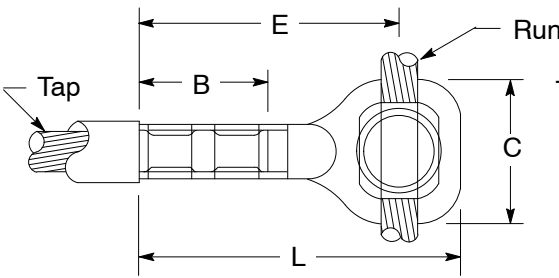
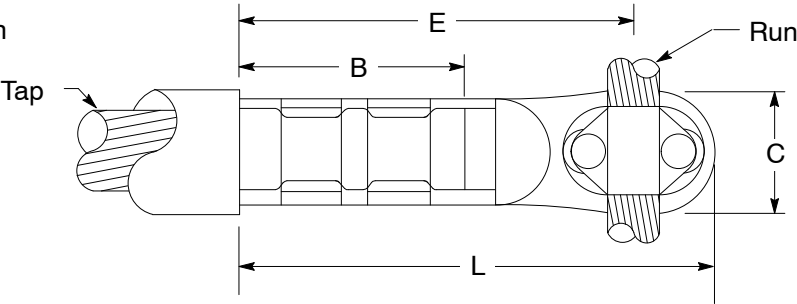

Figure 27
Figure 28
1. If Tee Connectors, shown in Figure 27 and Figure 28 are to be attached to an aluminum overhead conductor run, use a short length of bare copper conductor between the connector and the aluminum conductor, and attach it with a fired wedge per Document 066194.